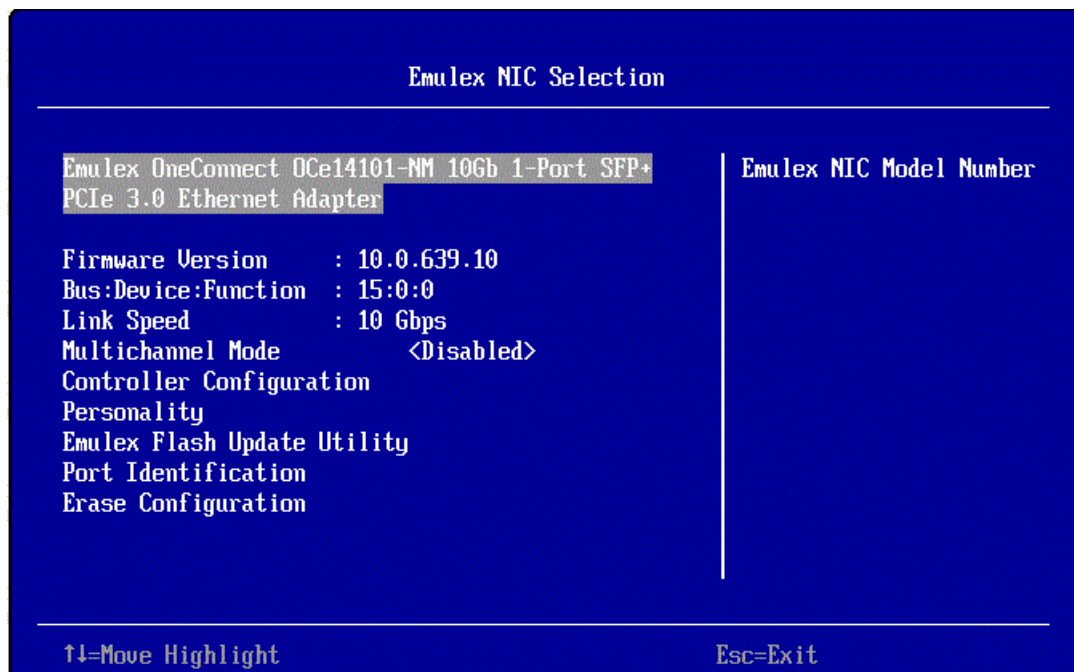

Figure 10-2 Emulex NIC Selection Screen
4. The Emulex NIC Selection screen (Figure 10-2) shows information for the selected adapter. Select **Emulex Flash Update Utility** and press <Enter>. The Emulex Flash
8. Reset the system. The latest version information for the adapter is displayed in the Emulex NIC Selection screen (Figure 10-2).
To view the personalities supported on the adapter, select **Personality** on the Emulex NIC Selection Screen (Figure 10-2), and then press **<Enter>**. The Personality Selection dialog box appears with a list of available personalities.
1. On the Emulex NIC Selection Screen (Figure 10-2), select **Personality** and press **<Enter>**. The Personality Selection dialog box appears.